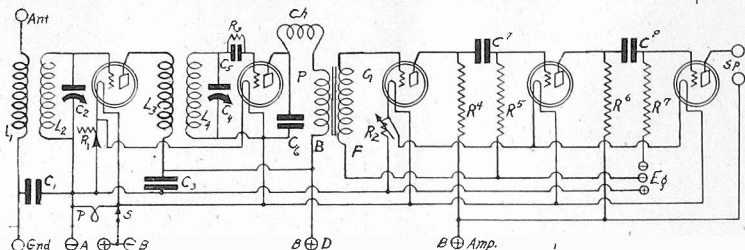

FIG. 612 THE CIRCUIT DIAGRAM OF A FIVE TUBE RECEIVER IN WHICH THE FILAMENTS ARE CONTROLLED WITH RHEOSTATS
(1)—Fig. 612 gives the circuit diagram you ask for.